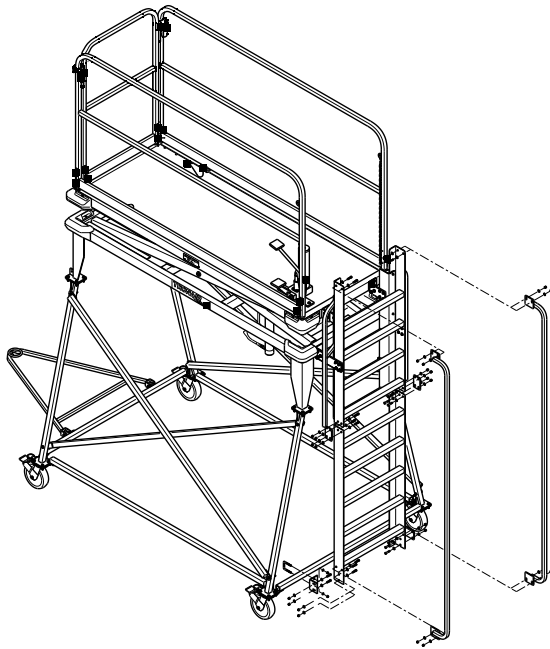

FIGURE 4
7. Install the ladder extension using the splice plates and $\frac{3}{8}$ -16 x 1½ inch long bolts. Assemble the extension handle using $\frac{3}{8}$ -16 x 1½ inch long bolts and secure the ladder to the extension brace using the U-bolt, angle and $\frac{3}{8}$ -16 x 1½-inch long bolts. (See *Figure 4*).